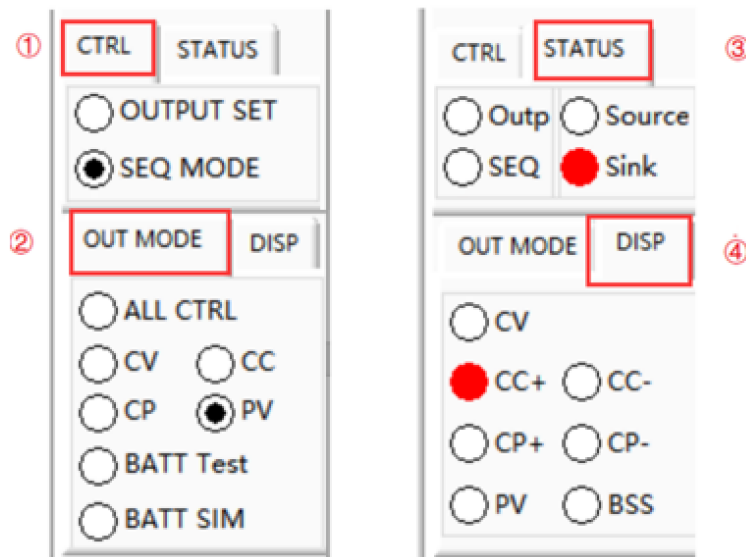

Figure 5-2 Control Mode/Output Mode/Status
On the right side of the panel the user can select the operating mode of the power supply according to the test requirements, and the software will automatically display the current operating status (Figure 5-2).
In the output setting panel and sequence panel, there are some important controls to control the input/output of the power supply in the lower right part (Figure 5-2③). Click "Apply" → "Power On" → "DC Output" → "Output Switch", the power supply starts to work. Click "Output Switch" → "DC Output" → "Power On", the power supply stops working.